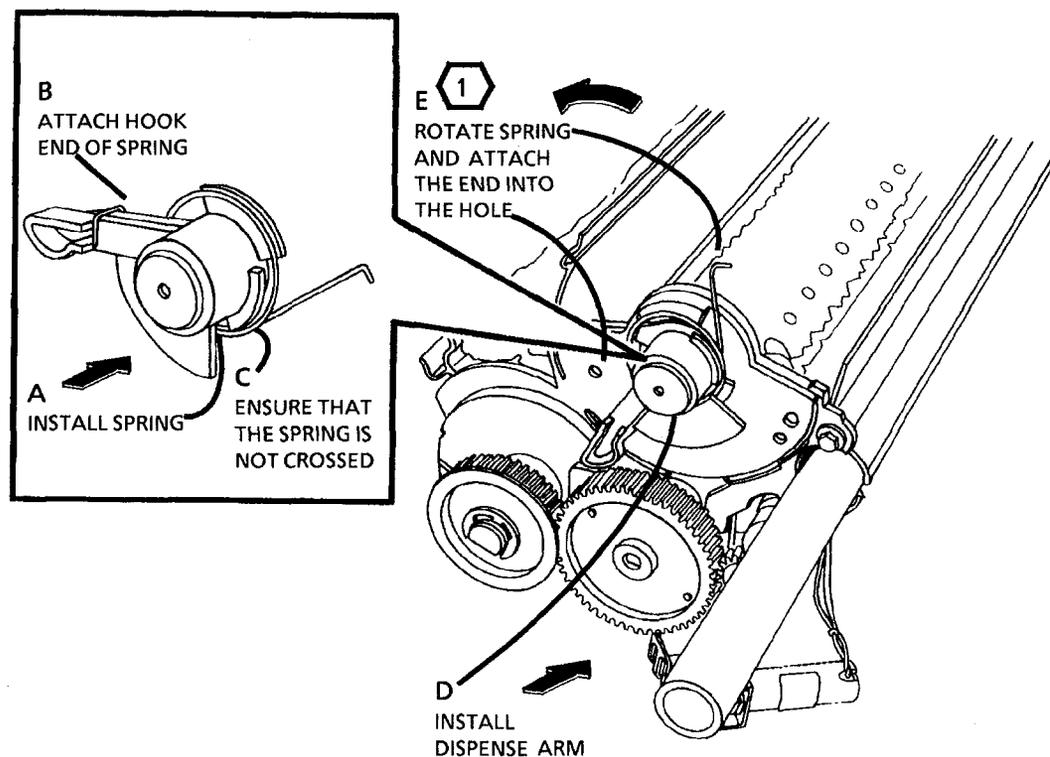

Figure 2. Replace the Return Spring
- (FIGURE 2): REPLACE THE RETURN SPRING.